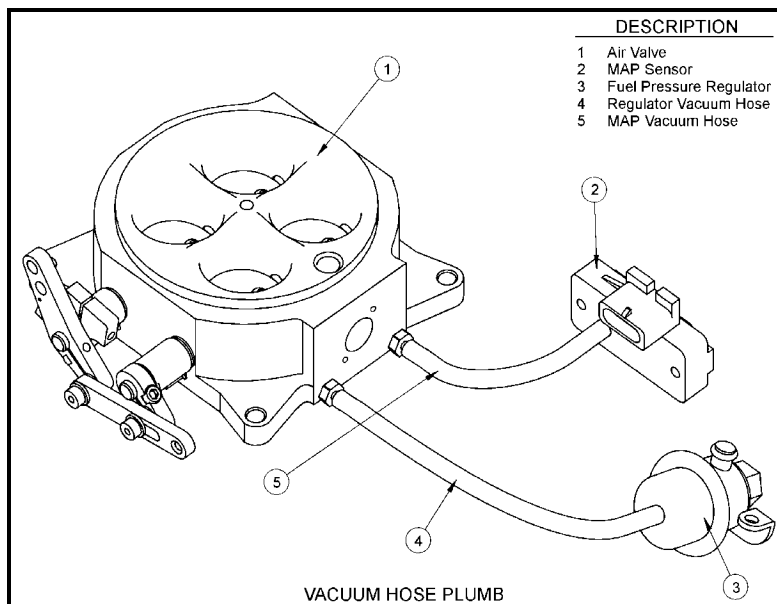

Figure 2
1. Install vacuum hoses to the appropriate port on the throttle body (See Fig 2). Use the diagrams made during removal of the existing fuel system to locate the correct port. The vacuum ports of the throttle body are labeled in the figure to the right.